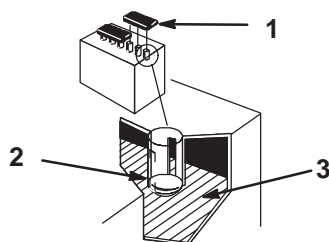

Figure 65
1. Open covers to see into the cells. The electrolyte must be up to the lower part of the tube (Fig. 65).
Important Do not allow the electrolyte to get below the plates. (Fig. 65).
2. Lift off the filler caps (Fig. 65).
3. Slowly pour distilled water into each battery cell until the level is up to the lower part of the tube (Fig. 65).